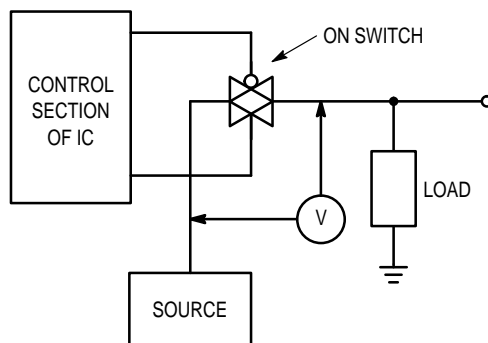

Figure 14. ΔV Across Switch
** For voltage drops across the switch (ΔV_{switch}) > 600 mV (> 300 mV at high temperature), excessive V_{DD} current may be drawn; i.e., the current out of the switch may contain both V_{DD} and switch input components. The reliability of the device will be unaffected unless the Maximum Ratings are exceeded. (See first page of this data sheet.) Reference Figure 14.